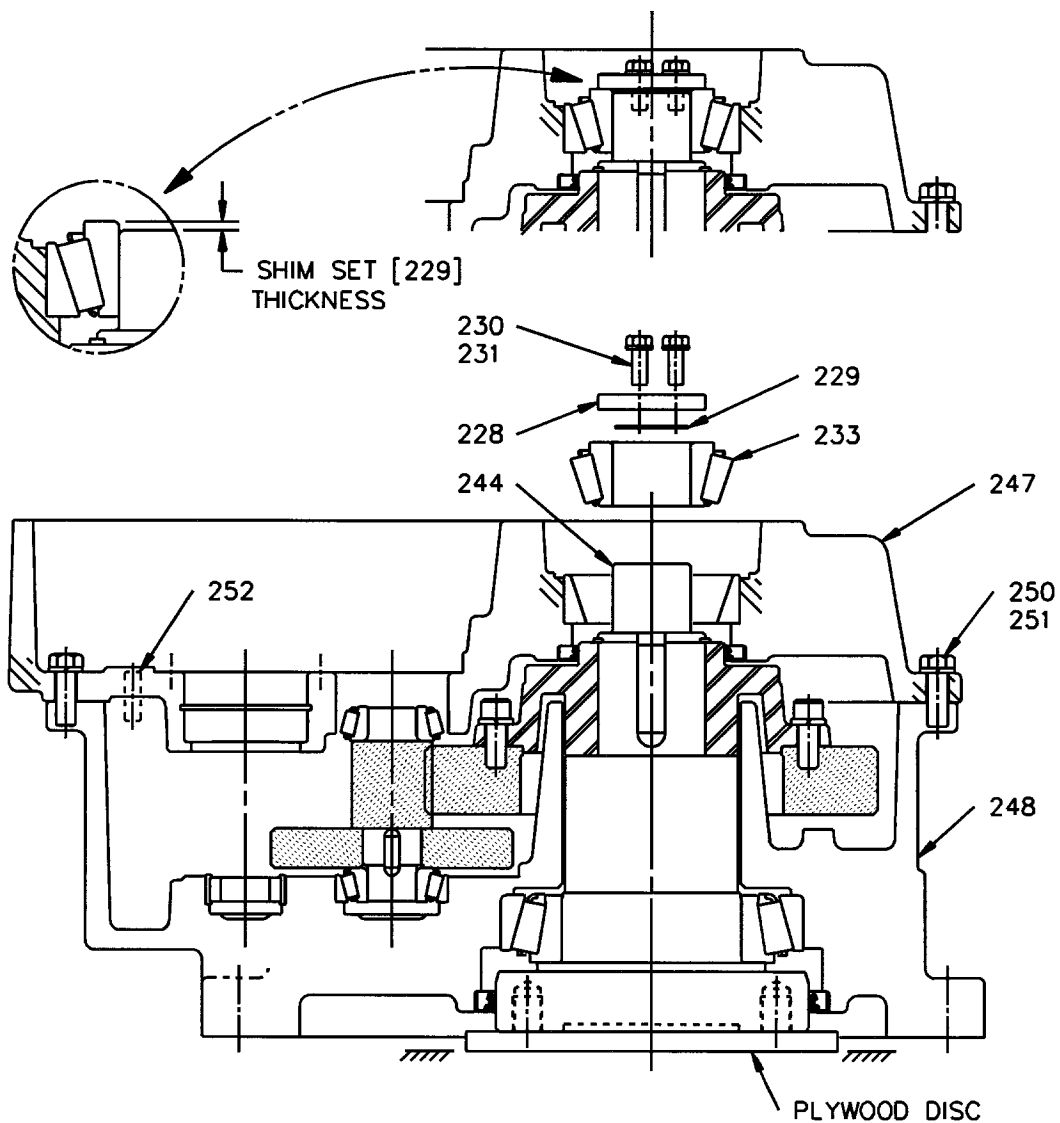

Figure 13: Gear Drive Assembly
Assembly (Cont'd)**Gear Drive** (Figure 13, page 18)
16. Remove the nylon strap, measure the distance with a depth micrometer from the bearing cone face to the end of the output shaft. *See insert, Figure 13*. Record this measurement "B".